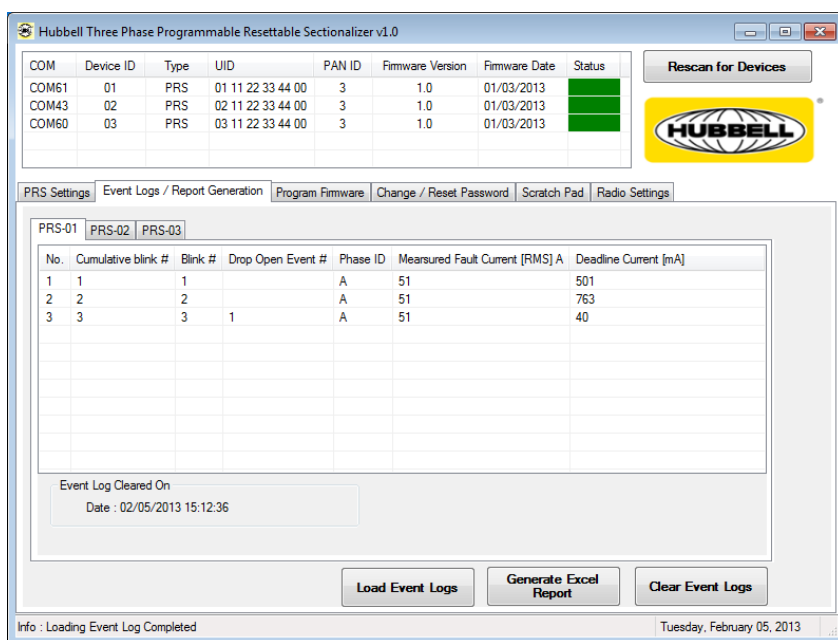

Figure 15 Event log of Phase A
7. The respective event logs are displayed when connected to that particular phase unit, for example as shown in Figures 15, 16 and 17.